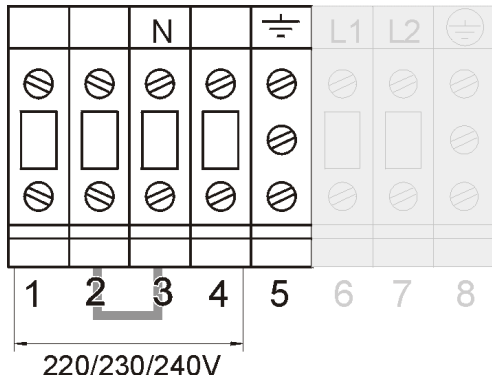

Figure 14. LP 5/6/8/10-11U:
2. Connect the load wires between the terminals 1 (L1) and 4 (N). Connect the ground wire to terminal 5. Ground connection is essential! Do not remove the link between terminals 2 and 3. See figure 14.